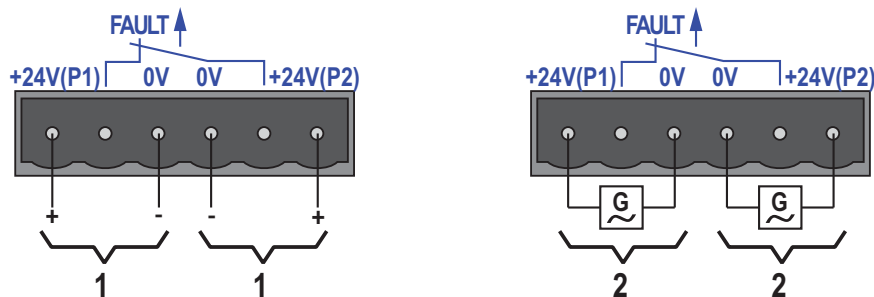

Figure 16: Connecting the supply voltage at the 6-pin terminal block
You can choose between DC or AC voltage when connecting the supply voltage. You use the +24V and 0V pins to connect the AC voltage (see figure 16).
- ▶ The signal contact (“FAULT”, for pin assignment of terminal block, see figure 16) monitors the functioning of the device, thus enabling remote diagnostics. You can specify the type of function monitoring in the Management.